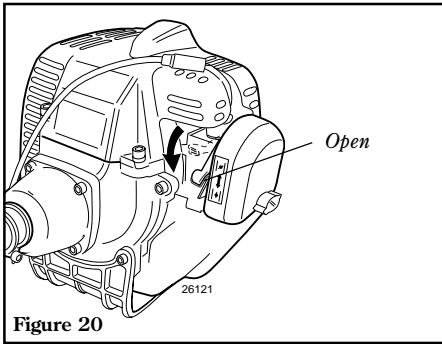

Figure 20
- When the engine starts, slowly move the choke lever to the "OPEN" position. See Figure 20. (If the engine stops after the initial start, close the choke and restart.)